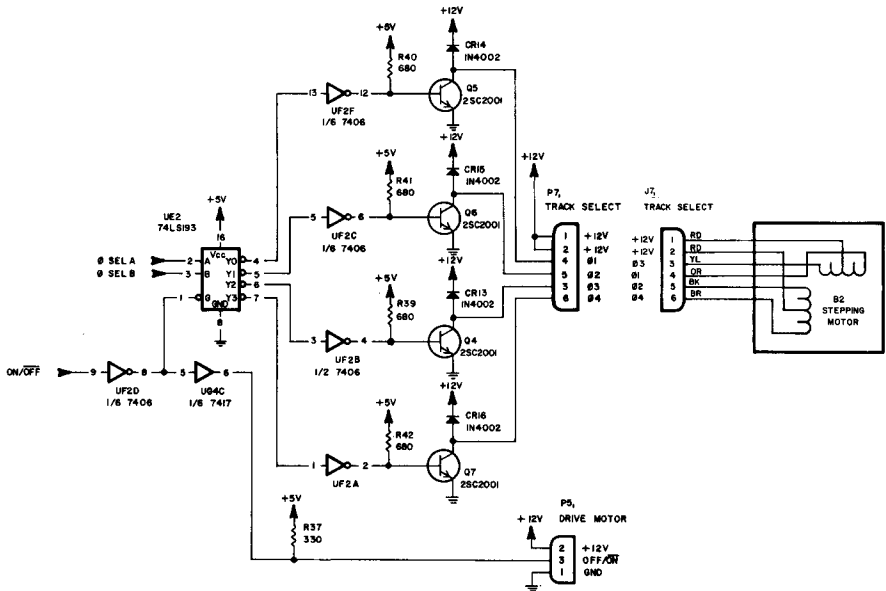

Fig. 7-11. Schematic of track select circuit, Model 1540.
7.1.5 Track Select Electrical Theory (Refer to Figs. 7-11 and 7-12)